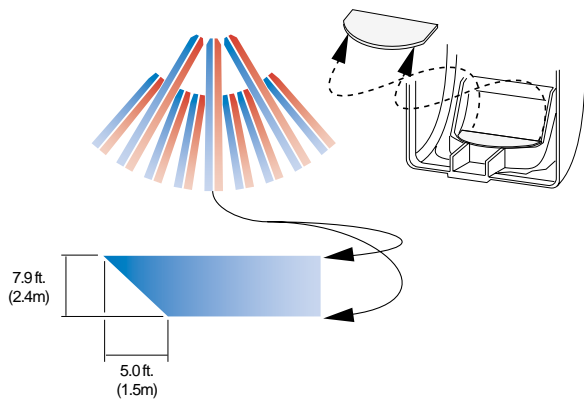

Figure 6. Cardboard undercrawl window mask
- Use the cardboard undercrawl window mask to improve false alarm immunity in the presence of objects within 5 feet (1.5m) and directly under the sensor. See Figure 6.